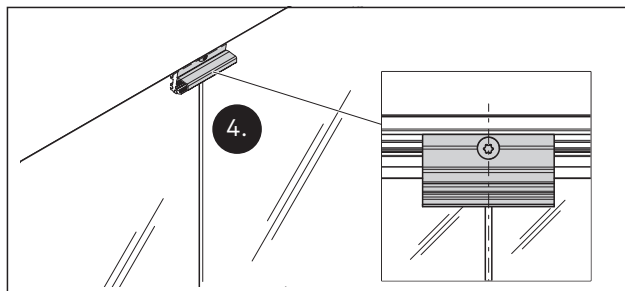

Fig. 30 The position of the clamping pieces on the joint between the overpanel and a side panel
5. Attach and fix the clamping pieces in the horizontal mounting profile to the joint between the overpanel and the side panel (Fig. 30).